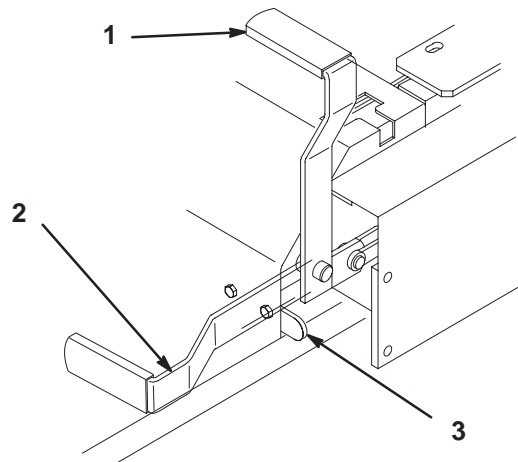

Figure 9
2. Pull back and up on the parking brake lever to set the parking brake (Fig. 9). The parking brake lever should stay firmly in the **engaged** position.
1. Push forward and down on the parking brake lever to release the parking brake (Fig. 9). The parking brake is **disengaged** and the lever will rest against the brake stop.